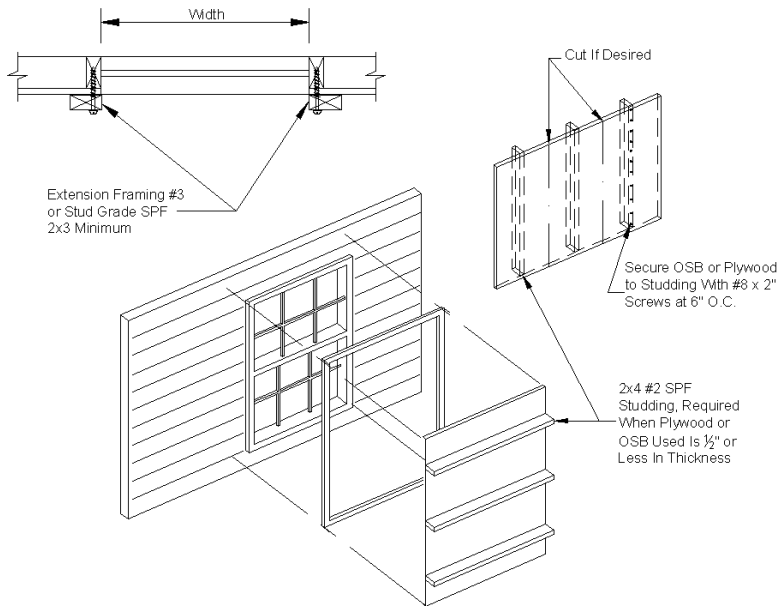

Figure 97. Wind protection shutter construction
If desired, prepare temporary protective window covers for use during severe wind storms and hurricanes according to **Figure 97**, **Table 29**, and the procedure below.
2. Assemble shutter panels as shown in **Figure 97**.